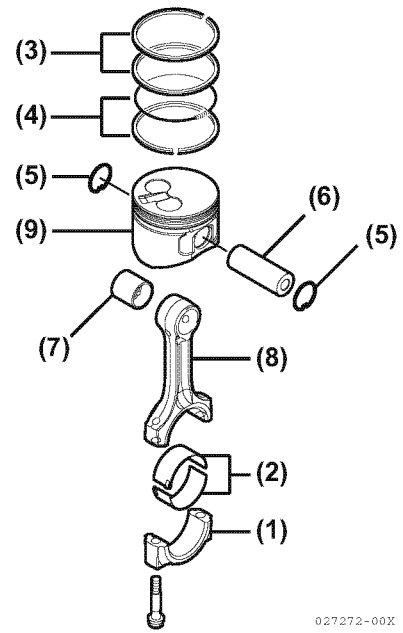

Figure 6-85
5. Lubricate and install the wrist pin (Figure 6-85, (6)) through the piston and connecting rod.
6. Reinstall the second circlip (Figure 6-85, (5)) and ensure it is securely seated in the groove.